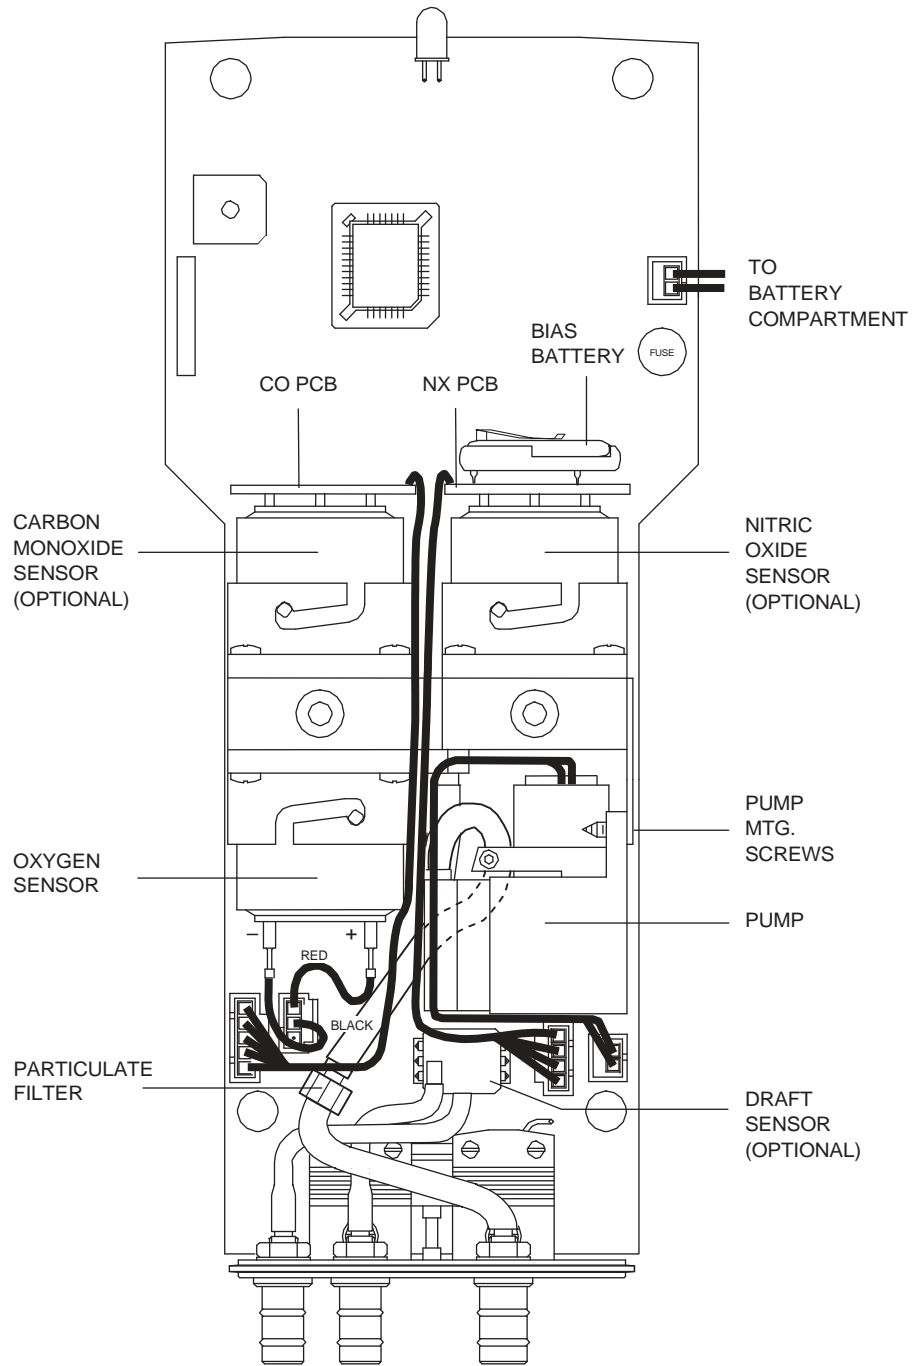

Figure 6-2. PCB and Sensors
The internal particulate filter (Figure 6-2) prevents small dust and dirt particles from entering and damaging the pump. Depending on your environmental conditions, it is recommended to change the particulate filter and fitting approximately every six months, or sooner if it becomes clogged.
2. Remove the Oxygen Sensor connector from the printed circuit board; then carefully pull off the two wires connected to the pins of the sensor (see Figure 6-2).
2. Carefully pull the printed circuit board off the rear of the Nitric Oxide sensor (see Figure 6-2).
A single lithium battery, located on the Nitric Oxide printed circuit board (see Figure 6-2), applies a constant bias voltage to the Nitric Oxide sensor even while the instrument is turned off. This battery has a life expectancy of at least 2 years.
2. Remove old battery from its holder (see Figure 6-2).